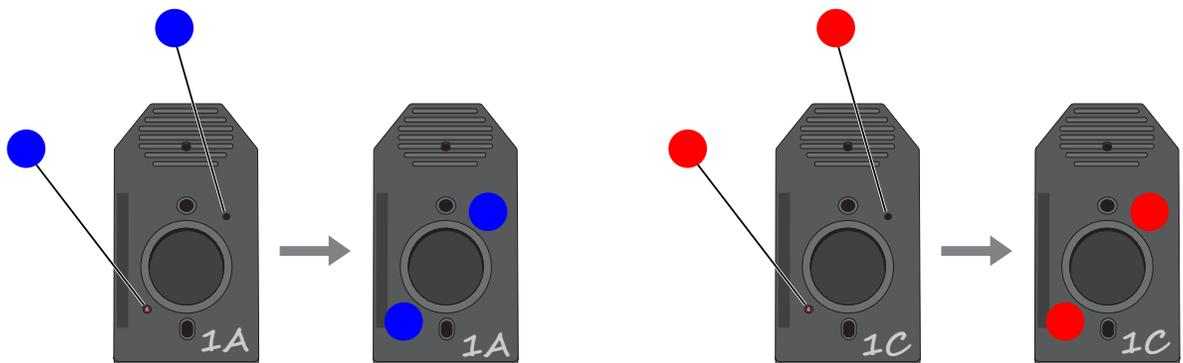

Figure 33 Applying Tough-Spots™ label dots to an array.
2. Cover both septa of the array with the 3/8" Tough-Spots™ label dots. (Figure 33.)